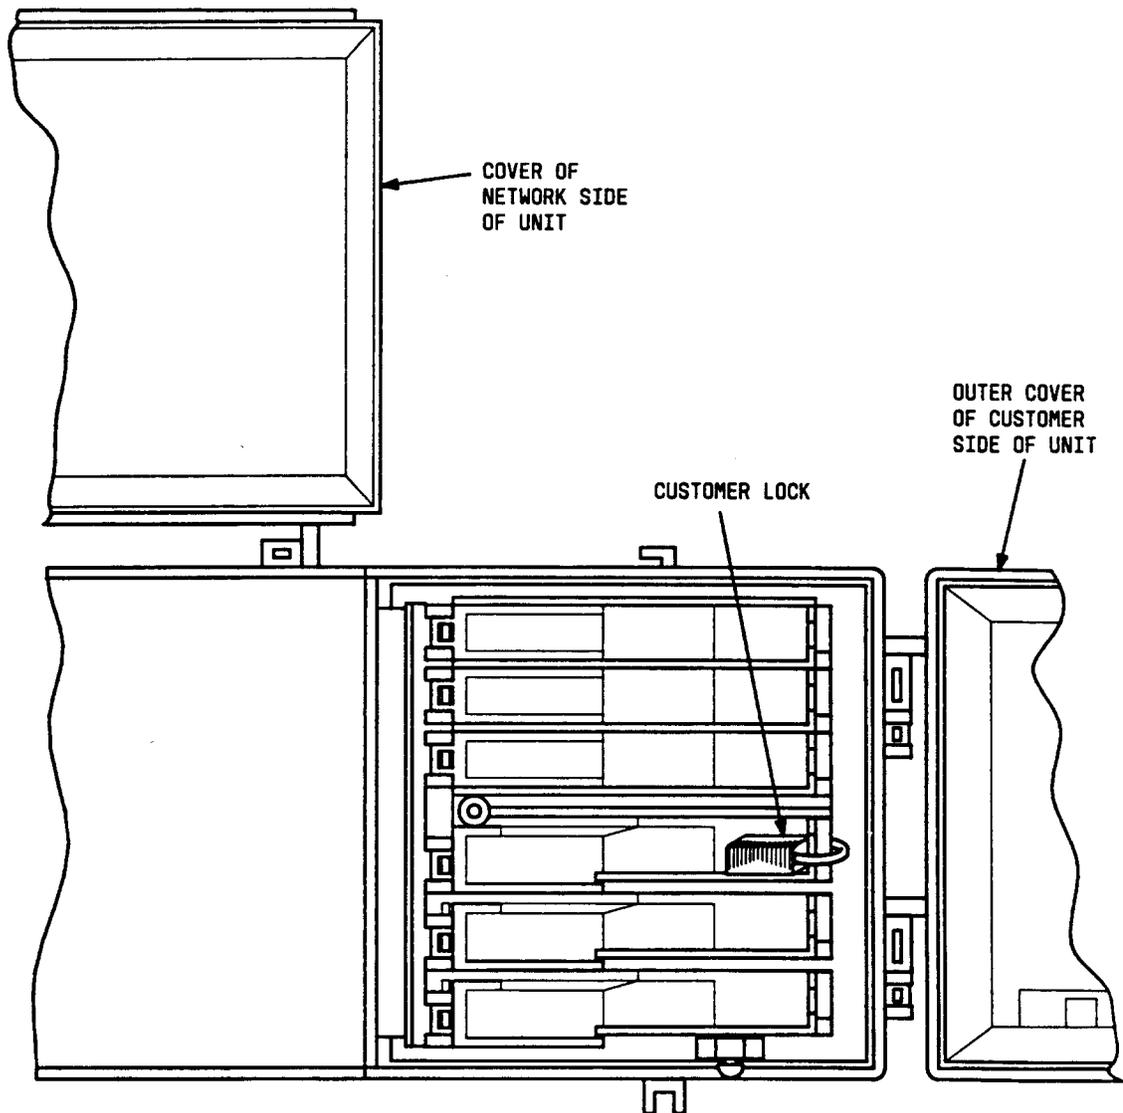

Fig. 19—600-Series NIU With Outer Covers Open
- (1) Open the outer covers on both the protector side and customer side of the 600-Series NIU as shown in Fig. 19.